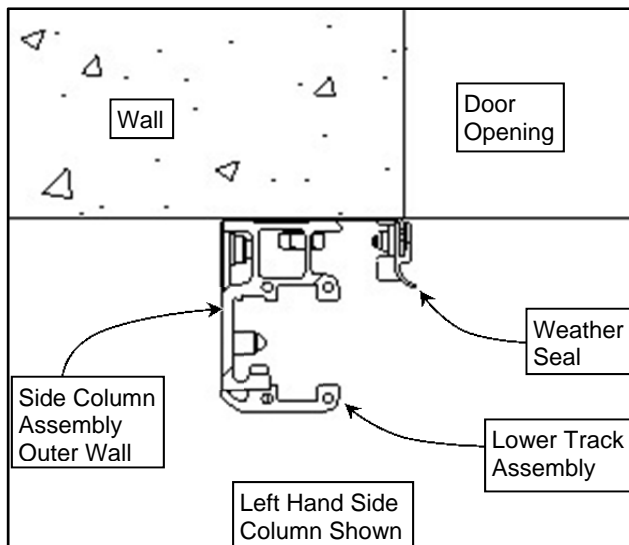
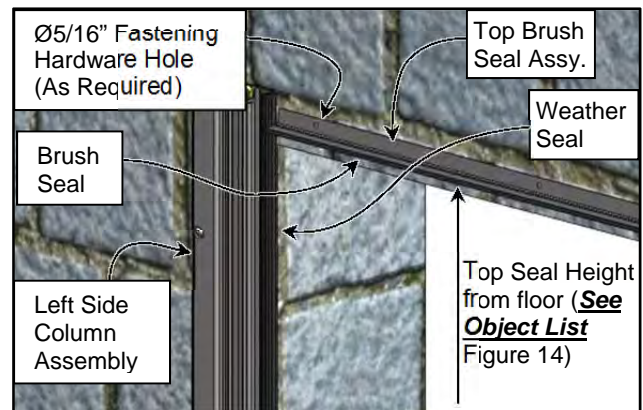
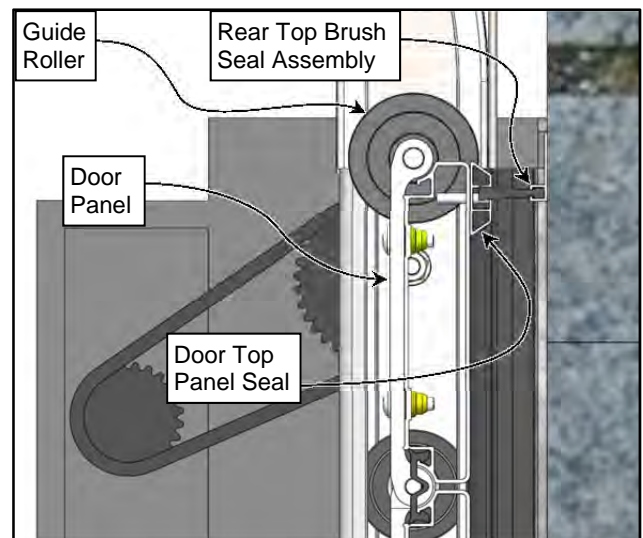

Figure 53
Figure 54
Figure 55
3. There is a length of weather seal on the side column assembly wall plate. The weather seal can be removed by pulling on either end of the seal, while working toward the opposite end. (See Figure 53)
4. Attach the new weather seal in the same manner the old seal was removed & in the same position. Make sure the seal is firmly seated along the edge. (See Figure 53 & Figure 54)
3. Remove the Top Brush Seal Assembly from the wall. Replace the brush in the mounting track. (See Figure 54)
4. Reinstall the top seal assembly to the wall. (See Figure 54)
5. Restore power to the control panel and confirm the new brush seal properly seals against the door panel. The Rear Top Brush Seal Assembly should seal up against the door's Top Panel Seal as shown. Adjust as necessary. (See Figure 54 & Figure 55)